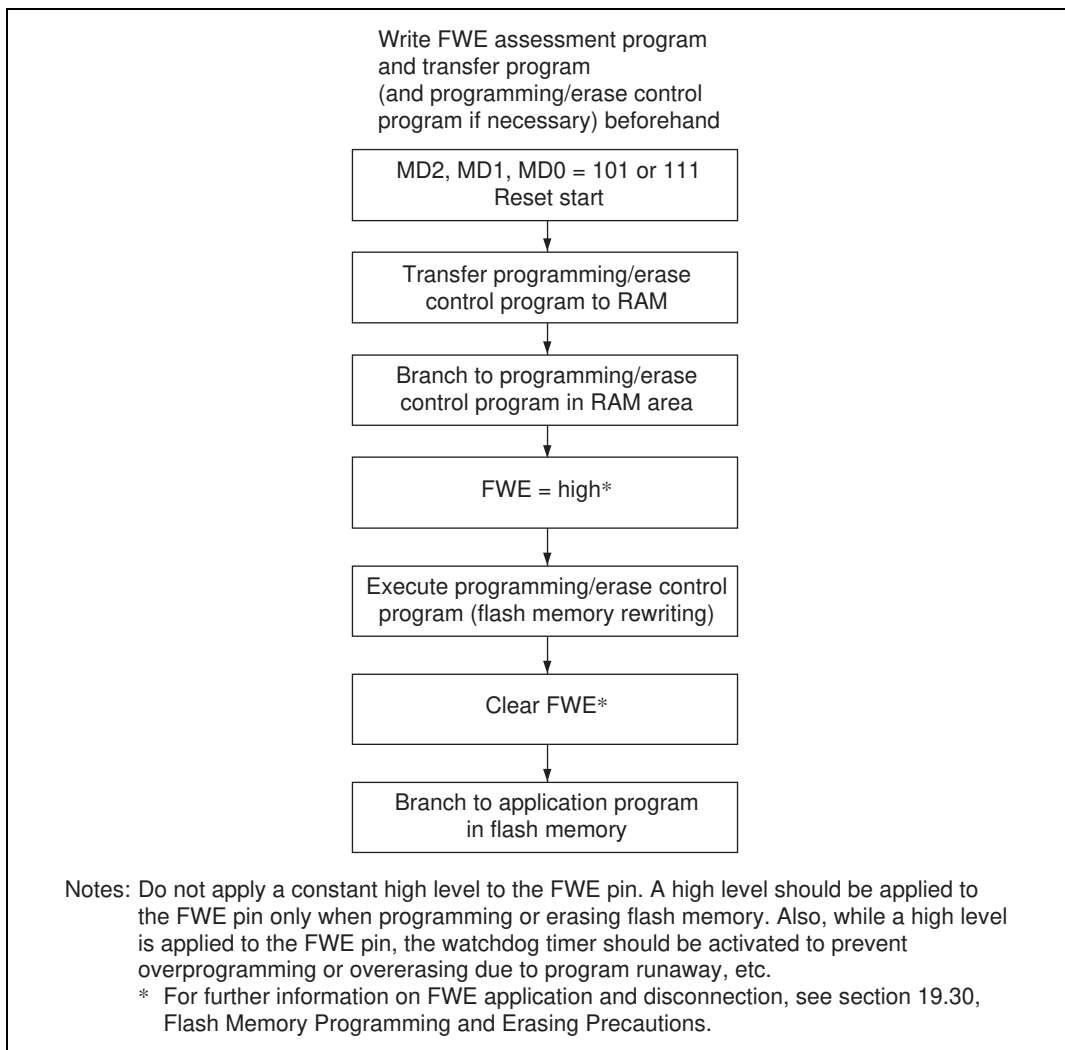

Figure 19.70 Example of User Program Mode Execution Procedure
Figure 19.70 shows the procedure for executing the program/erase control program when transferred to on-chip RAM.
Follow the procedure shown in the program/program-verify flowchart in figure 19.70 to write data or programs to flash memory. Performing program operations according to this flowchart will enable data or programs to be written to flash memory without subjecting the device to voltage stress or sacrificing program data reliability. Programming should be carried out 128 bytes at a time.
After the elapse of a given programming time, the programming mode is exited (the Pn bit in FLMCRn is cleared to 0, then the PSUn bit is cleared to 0 at least (α) μs later). Next, the watchdog timer is cleared after the elapse of (β) μs or more, and the operating mode is switched to program-verify mode by setting the PVn bit in FLMCRn. Before reading in program-verify mode, a dummy write of H'FF data should be made to the addresses to be read. The dummy write should be executed after the elapse of (γ) μs or more. When the flash memory is read in this state (verify data is read in 16-bit units), the data at the latched address is read. Wait at least (ϵ) μs after the dummy write before performing this read operation. Next, the originally written data is compared with the verify data, and reprogram data is computed (see figure 19.70) and transferred to the reprogram data area. After 128 bytes of data have been verified, exit program-verify mode and wait for at least (η) μs , then clear the SWEn bit in FLMCRn to 0, and wait again for at least (θ) μs . If reprogramming is necessary, set program mode again, and repeat the program/program-verify sequence as before. However, ensure that the program/program-verify sequence is not repeated more than (N) times on the same bits.